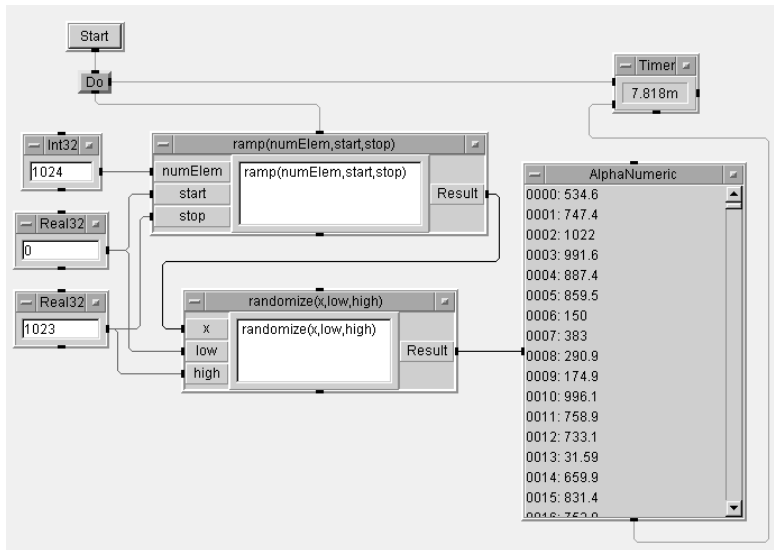

Figure 18.4. Function calls with many objects
- Reduce the number of objects in your programs. See Figures 18.4 and 18.5. (Note: this reduction can be carried to the extreme; readability and maintainability should also be considered as well as speed of execution, particularly for instrument-control programs.)